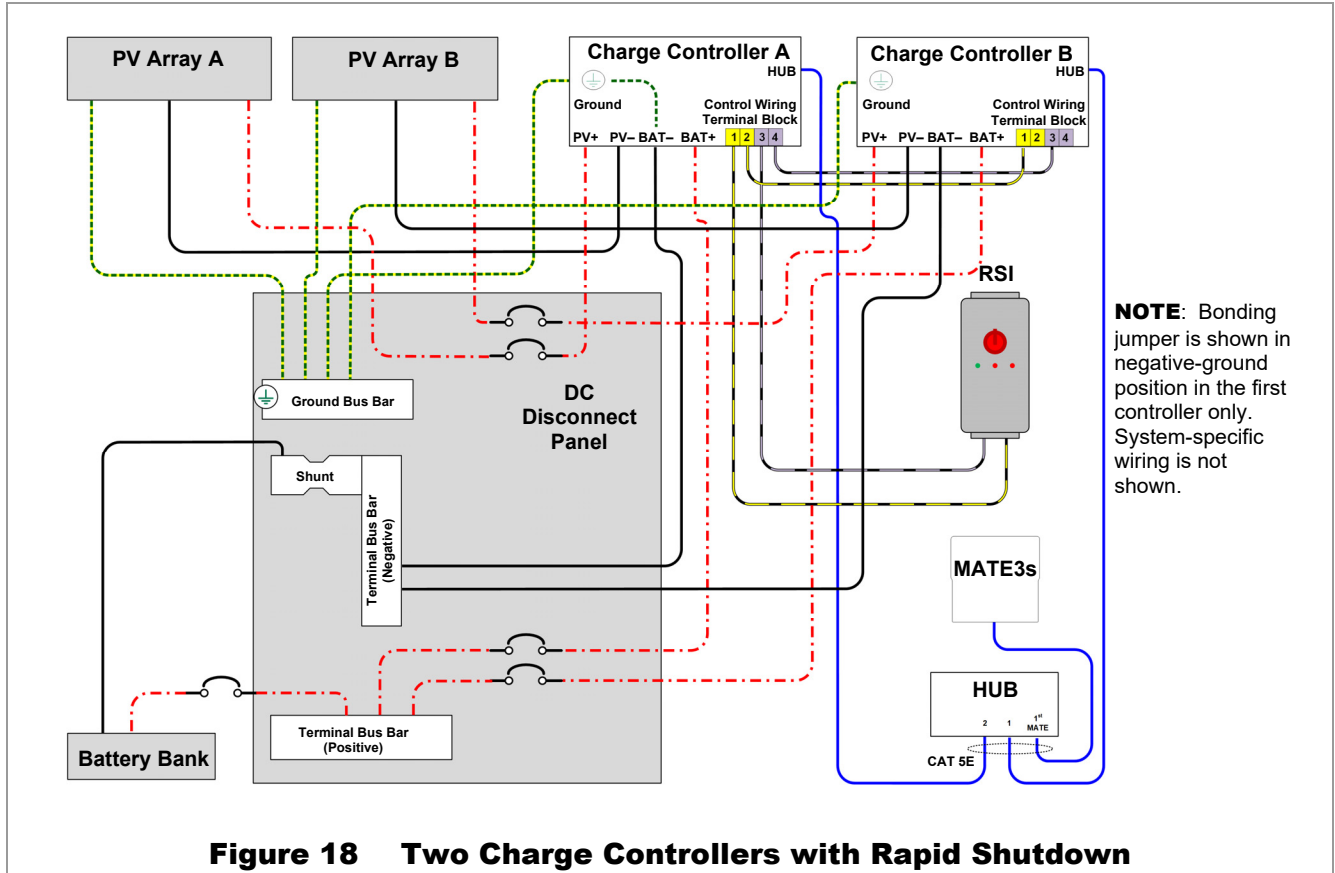

Figure 18 Two Charge Controllers with Rapid Shutdown
Note that for simplicity, Figure 17 and Figure 18 do not show terminals **5** through **8**.
- In Figure 18, Charge Controller A terminal **1** is wired to one of the RSI terminals. Terminal **3** is wired to the other RSI terminal.
- In Figure 18, Controller A also shows terminals **2** and **4** wired to Controller B terminals **1** and **3**.